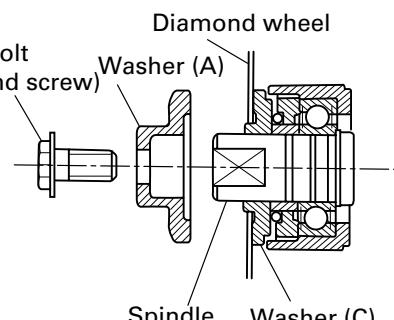

Fig. 3
- (1) Thoroughly remove dust accumulated on the spindle and washers.
- (2) As shown in Fig. 3. the concave portions of washers (A) and (C) must be on the diamond wheel side.
- (3) Thoroughly clamp the bolt.